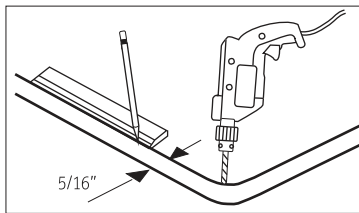

Figure 2
5. Remove sink from counter top and draw cutout line $5/16"$ inside the original rim outside line with $1-1/2"$ radius at corners. Drill hole at the inside corner of the cutout line. (Figure 2)